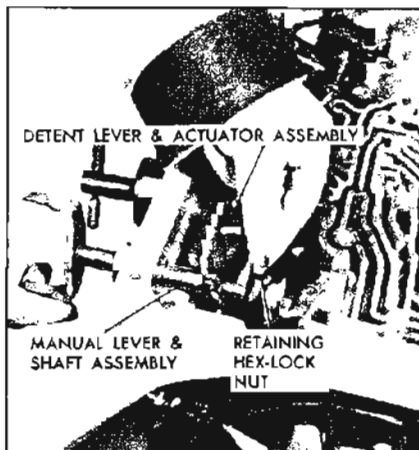

Figure 5-710
6. Install the retaining hex-lock nut on the manual shaft. See Figure 5-710.